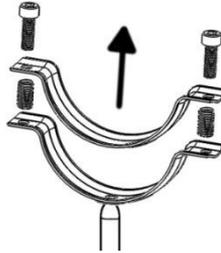

Figure 1
- a. Remove bolts and springs from barrel clamp at top of monopod (Fig. 1).